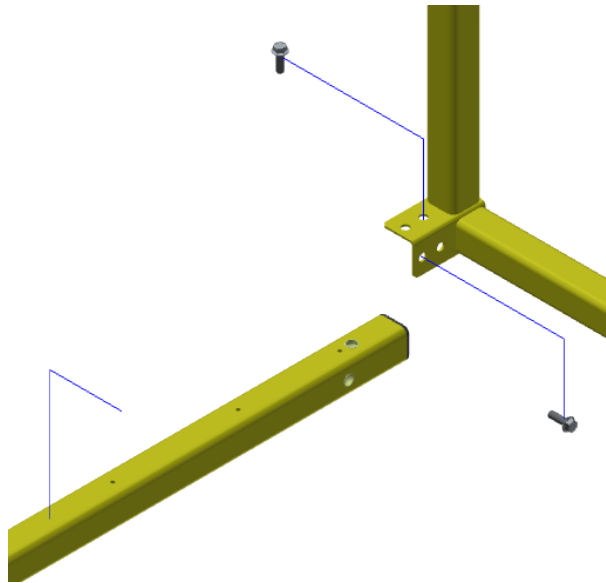

Figure 10: Machine Guard Side Frame Securing
- Position Machine Guard Side Frame (p/n _ _-231) on the mounting tubes and secure to Machine Guard Corner Mounting Tube Assembly (p/n _ _-244) with provided 1/4-20 hardware as represented below (Figure 10).